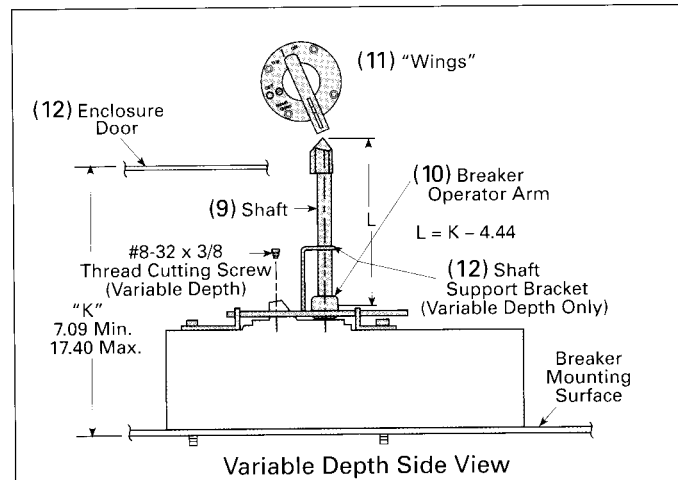

Figure 4
A. Shaft length for Variable Depth Operators $L = K - 4.44$ " as shown in Figure 4. Attach the shaft **(9)** to the operating arm **(10)** of the breaker operator and tighten the set screw to 70 in-lb. min.
NOTE: The proper orientation of the "wings" (11) (shown in OFF position) at the end of the shaft when the breaker is in the OFF position, as shown in Figure 4.